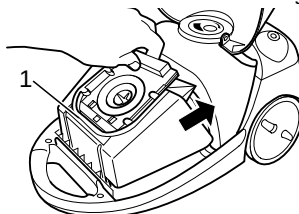

Fig. 18
2. Pull the dust bag holder (Fig. 18/1) up and out.